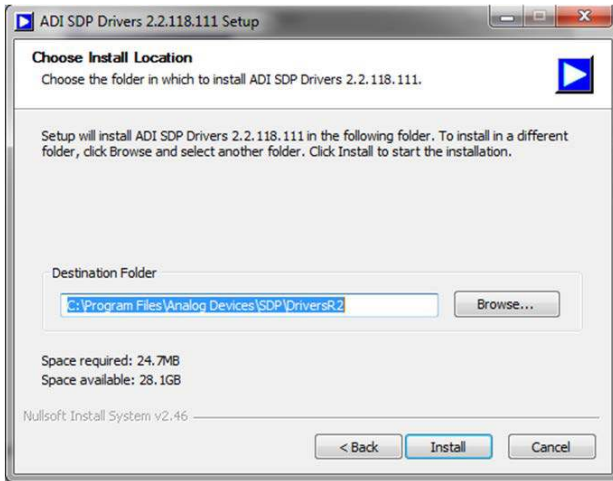

Figure 10. SDP-H1 Drivers Path
8. Enter the desired path for the SDP-H1 drivers and click **Install** (see Figure 10).